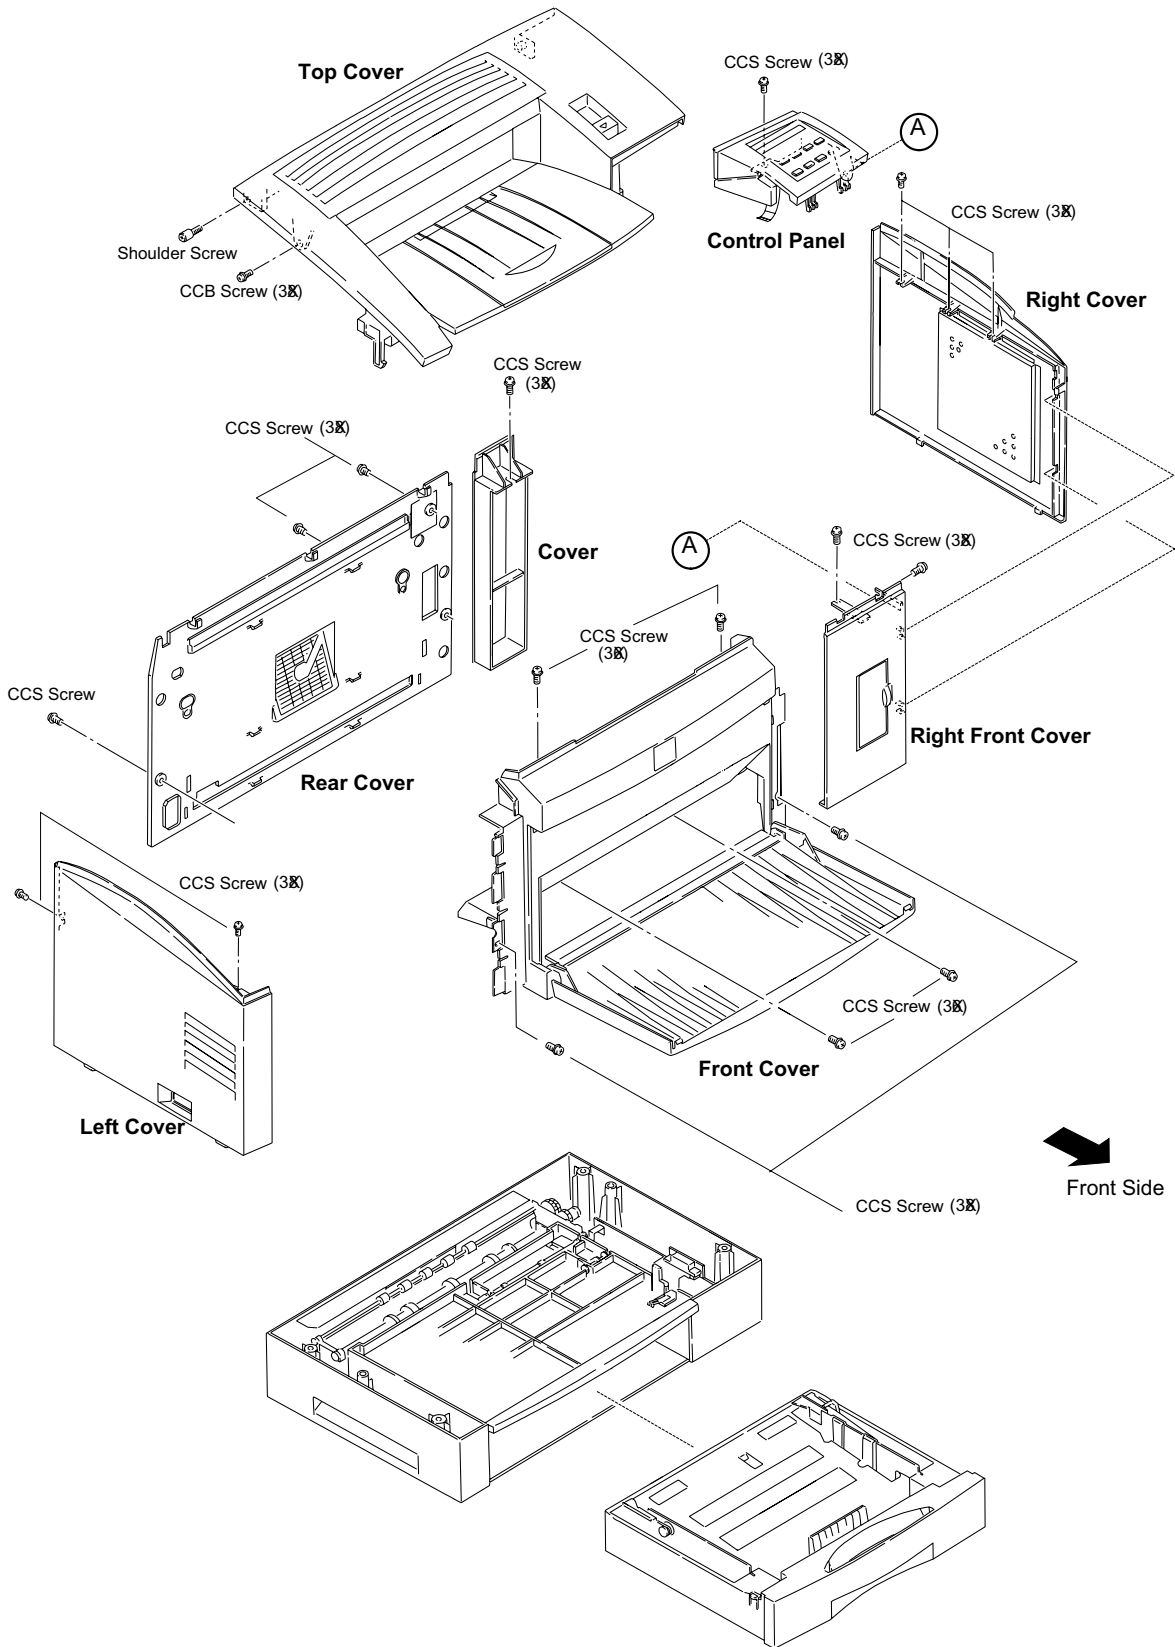

Figure 3-2. Outer Cover Removal
2. Release 6 hooks securing the rear cover. (Refer to Figure 3-2.)